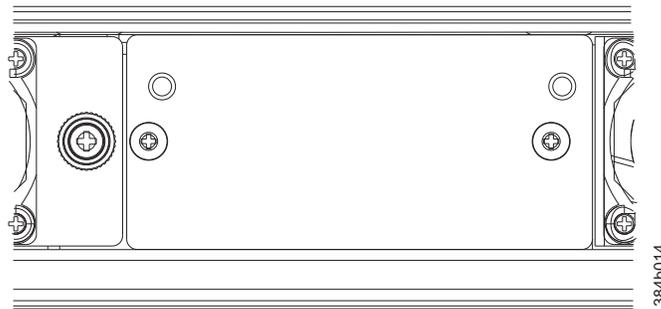

Figure 32. WWN bezel
**Note:** The WWN bezel (see Figure 32) covers the WWN cards. The LEDs on the WWN cards are not visible unless the bezel is removed.
Figure 32 displays the WWN bezel. The WWN bezel must be removed to reveal the WWN cards and LEDs. See “Removing and installing a WWN bezel and WWN card” on page 85 for removal instructions.